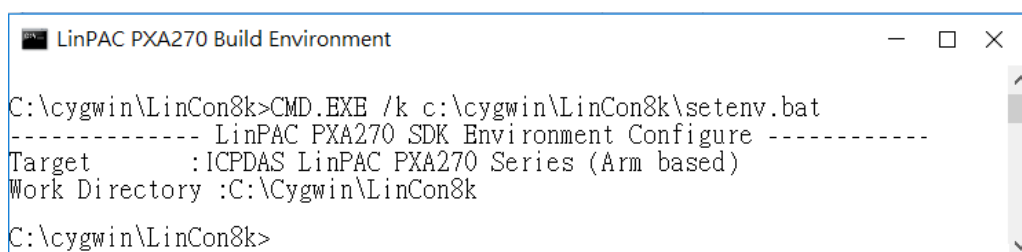

Figure 1.3.1-11. Click the 'LinPAC_AM335x Build Environment'
9. Type '**make**' command (needs run as an administrator). A Command Prompt window will then be displayed that allows applications for the LP-8x4x to be compiled. Refer to Figure 1.3.1-12.